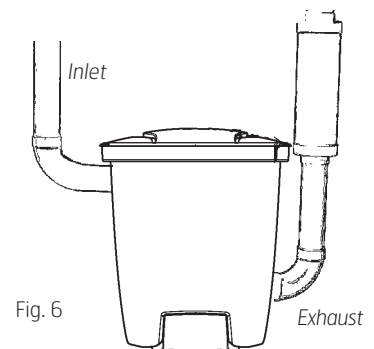

Fig. 6
5. Fit the blanking plug to the outlet previously occupied by the suction pipe socket. Use the four screws to hold it in place. The exhaust pipe must be firmly attached to the wall to ensure its connection with the socket does not loosen. Remember that you will need to be able to turn the bent pipe in different directions to ensure a suitable pipe layout. Then connect up the exhaust pipe and muffler, Fig. 6. Fit the central vacuum cleaner so that the exhaust pipe is as short as possible, max. 10 metres. Take the surroundings into consideration when positioning the exhaust. For this reason, you should always fit a muffler.